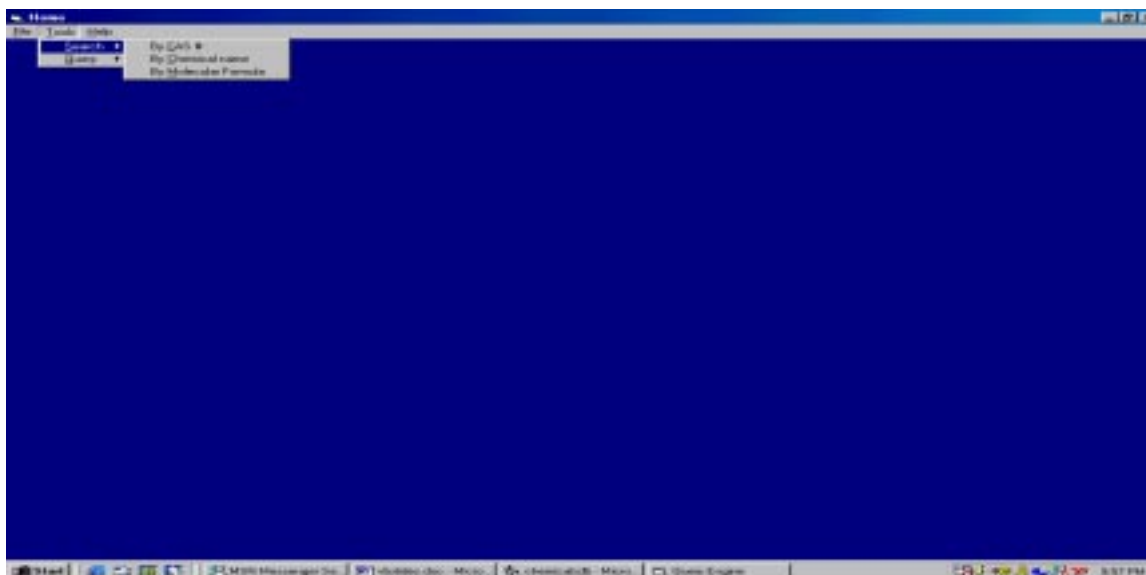

Figure 4.12: Showing the pull down menu for Search
- c) By Molecular Formula as shown in Figure 4.12 below